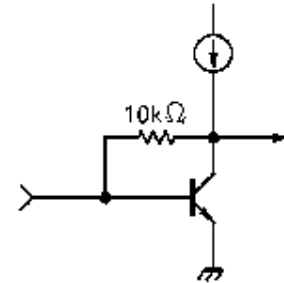

Fig.3
- IF limiter amplifier (see Fig.3)
The IF limiter amplifier is composed of six emitter-grounded amplifiers and a differential amplifier. The basis composition of the emitter-ground amplifiers is shown as Fig.3